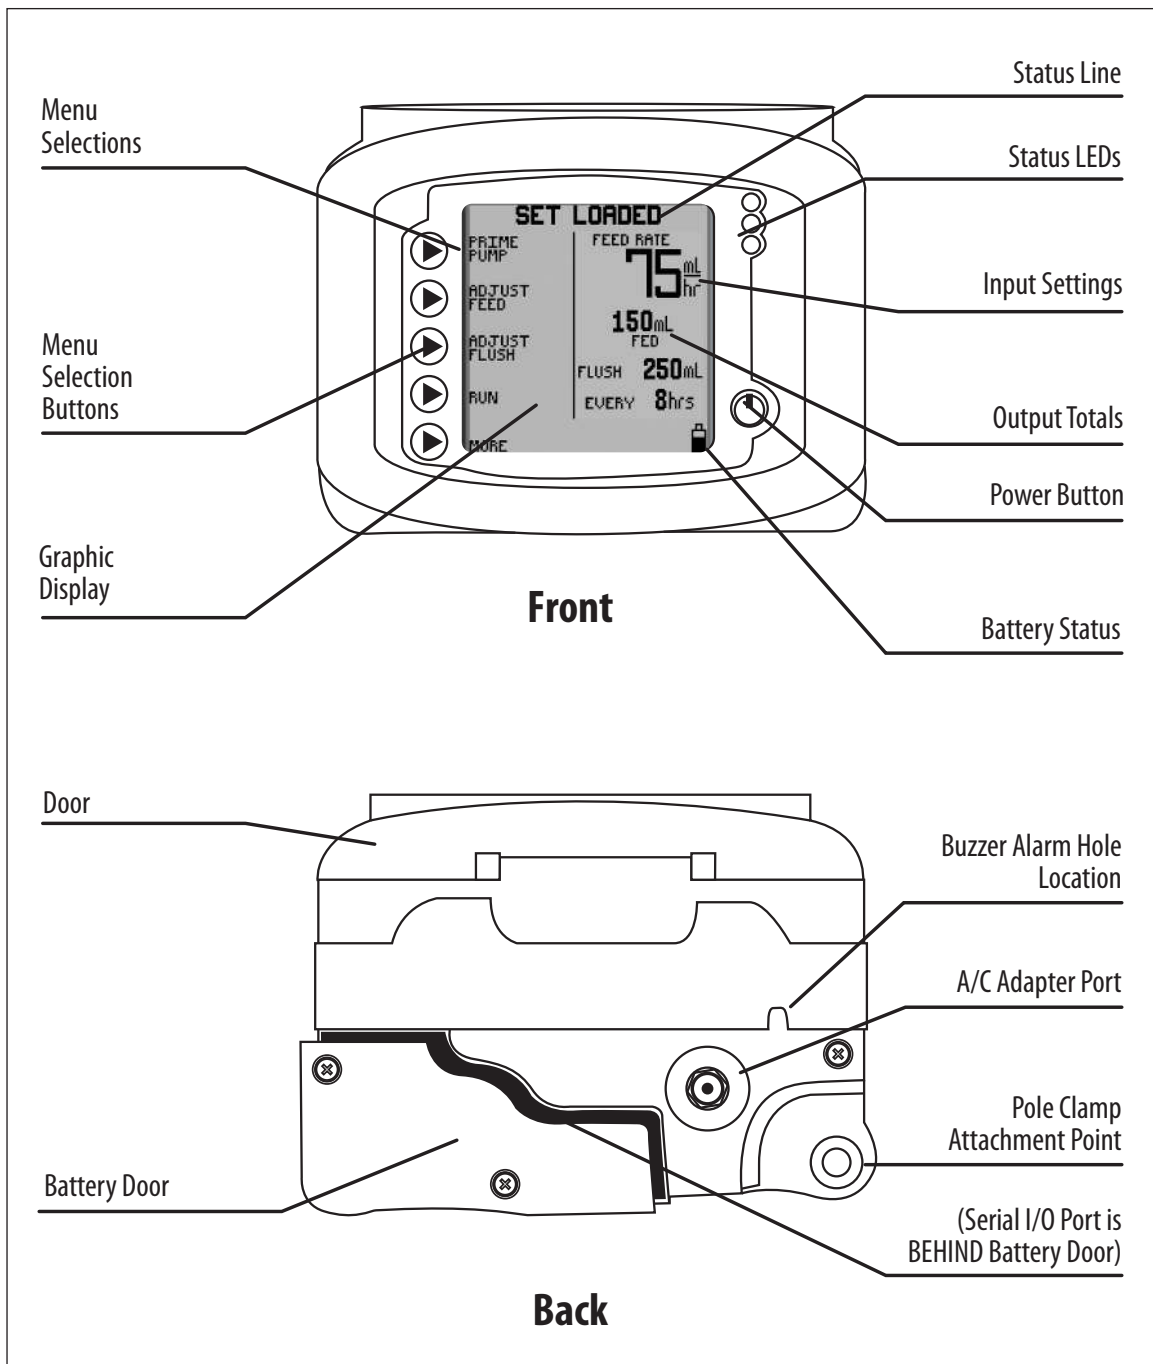

Figure 1A. Kangaroo Joey Enteral Feeding Pump features, front and rear views.
13. **Warning:** The serial I/O port (see Figure 1A) is intended only for use by the manufacturer or trained service technician. Covidien is not responsible for any changes attempted or made to the system using an unauthorized connection.
Plug the A/C Power Adapter (Part Number 383491) into the A/C Adapter Port on the back of the pump. See Figure 1A to locate port on pump.